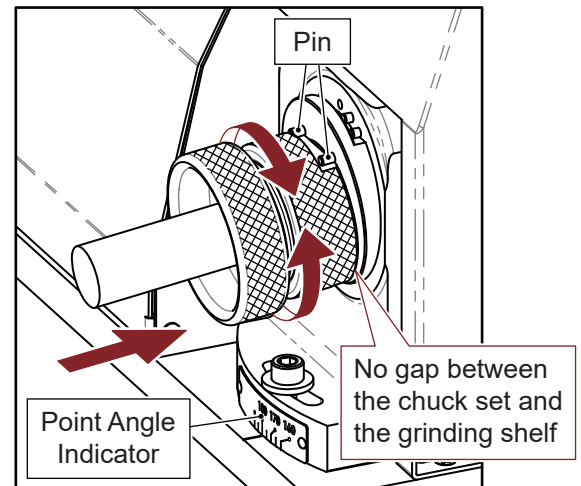

Fig. 7-1
1. Cutting Lip Grinding (Fig. 7-1)
- ① Insert the chuck set into the cutting lip grinding shelf, align the slot of clamping-nut to the two pins on the grinding shelf, push the chuck set gently and turn it clockwise and counterclockwise until the grinding noise stops.
- ② Take the chuck set out, turn it to the other side and grind the drill in the same way.